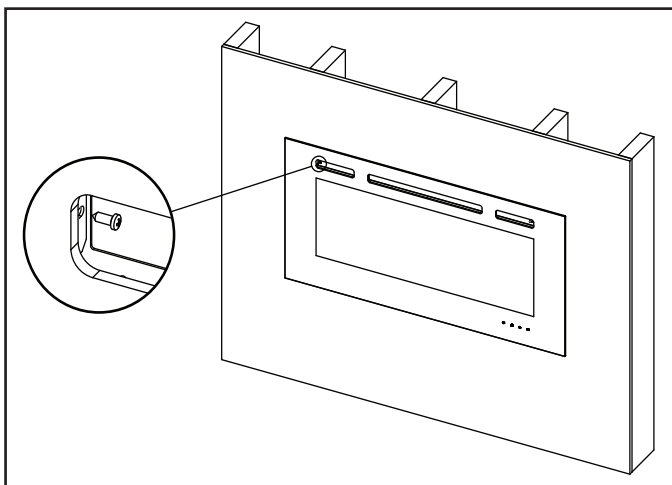

Figure 3. Secure Glass Front
5. Thread the two (2) ST3X8 screws into the threaded holes on the glass panel. Check the alignment of the glass panel and securely tighten the screws. See Figure 3.